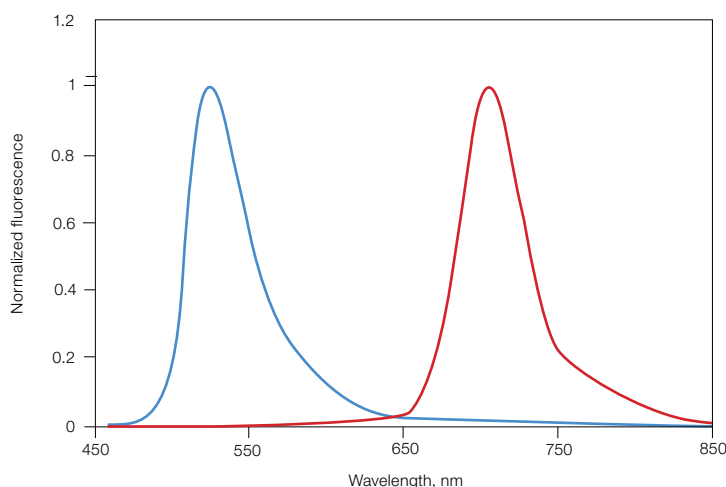
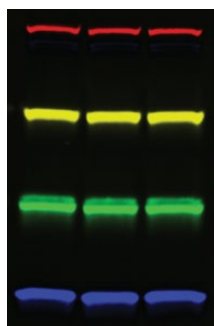

Fig 1. Fluorescence excitation and emission spectra for the StarBright label. StarBright Blue 520 (—); StarBright Blue 700 (—).
Fig. 2. Composite blot image for quadruplex western blotting.
StarBright Secondary Antibodies are excited with blue light (440–470 nm) and are available in two colors: StarBright Blue 520 emits in the green range of the spectrum (emission maximum: 520 nm) and StarBright Blue 700 maximally emits in the far red/near infrared region of the spectrum (700 nm) (Figure 1). They can be used together with other infrared or visible light emitting dye–conjugated antibodies for multiplex imaging applications (Figure 2).
- **Easy multiplexing options** — Stain-Free gel and/or hFAB Rhodamine Antibodies and antibodies labeled with other traditional fluorophores emitting in the visible or near infrared region (Figures 2 and 3). Detecting multiple proteins using these antibodies can save valuable sample, effort, and time; no need for cutting, stripping, or reprobing membranes